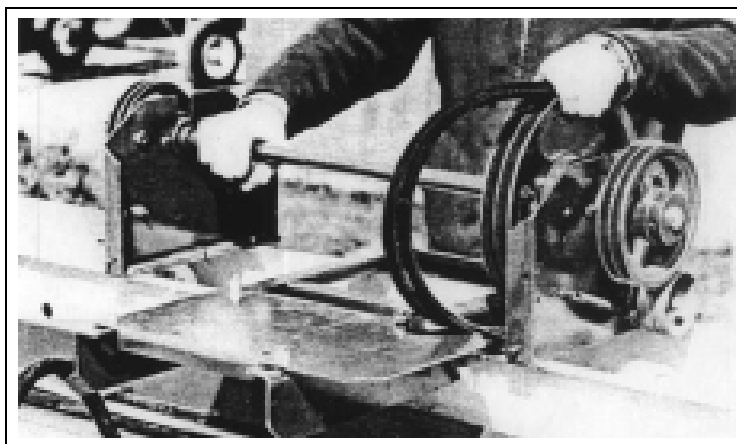

Figure 4Q
20. Top drive shaft assembly. First place two (2) BX-48 matched V-belts on the 11-3/8" pulley. Then securely bolt top drive shaft assembly on to the trolley, using four (4) 5/16" x 3/4" bolts, with lock washers and nuts. Place the 11-3/8" pulley toward the outboard end of the main frame, as shown in *Figure 4Q or See Page 44.* Be sure the belt idlers are opposite the motor mount.